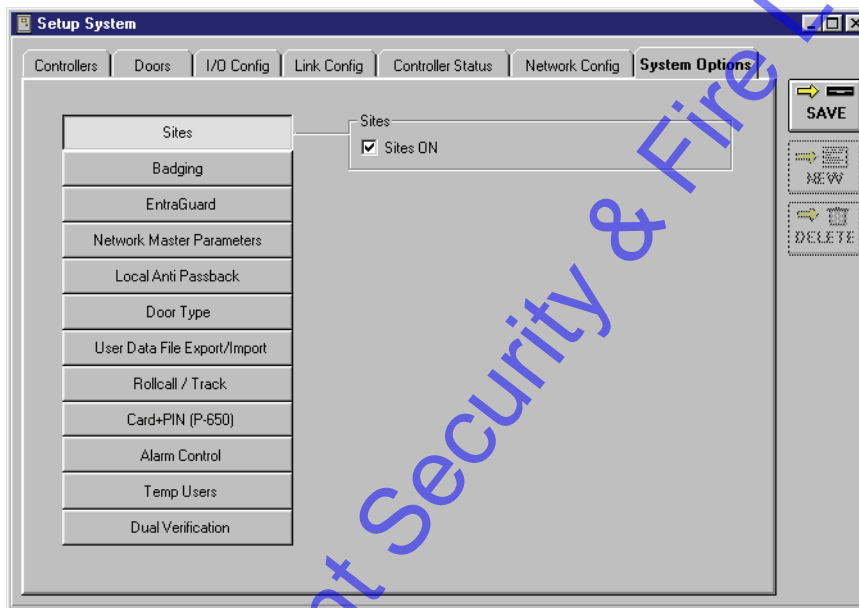

Figure 8-28: System Options Tab - Sites Enabled
The Multiple Sites: Sites ON check box is used to disable the multiple sites feature (see Figure 8-28). Building off the previous example, the Warehouse site was deleted leaving the Manufacturing-Sales site as the only remaining site. Perform the following steps to disable the multiple sites feature.
1. Click on the Setup ⇒ System pull-down menu or click on the  button on the tool bar, then click on the **System Options** tab. The following window appears (see Figure 8-28).
2. If the Sites field is not automatically showing, click on the  button. The System Options window will change to reveal the field for enabling multiple sites (see Figure 8-28).